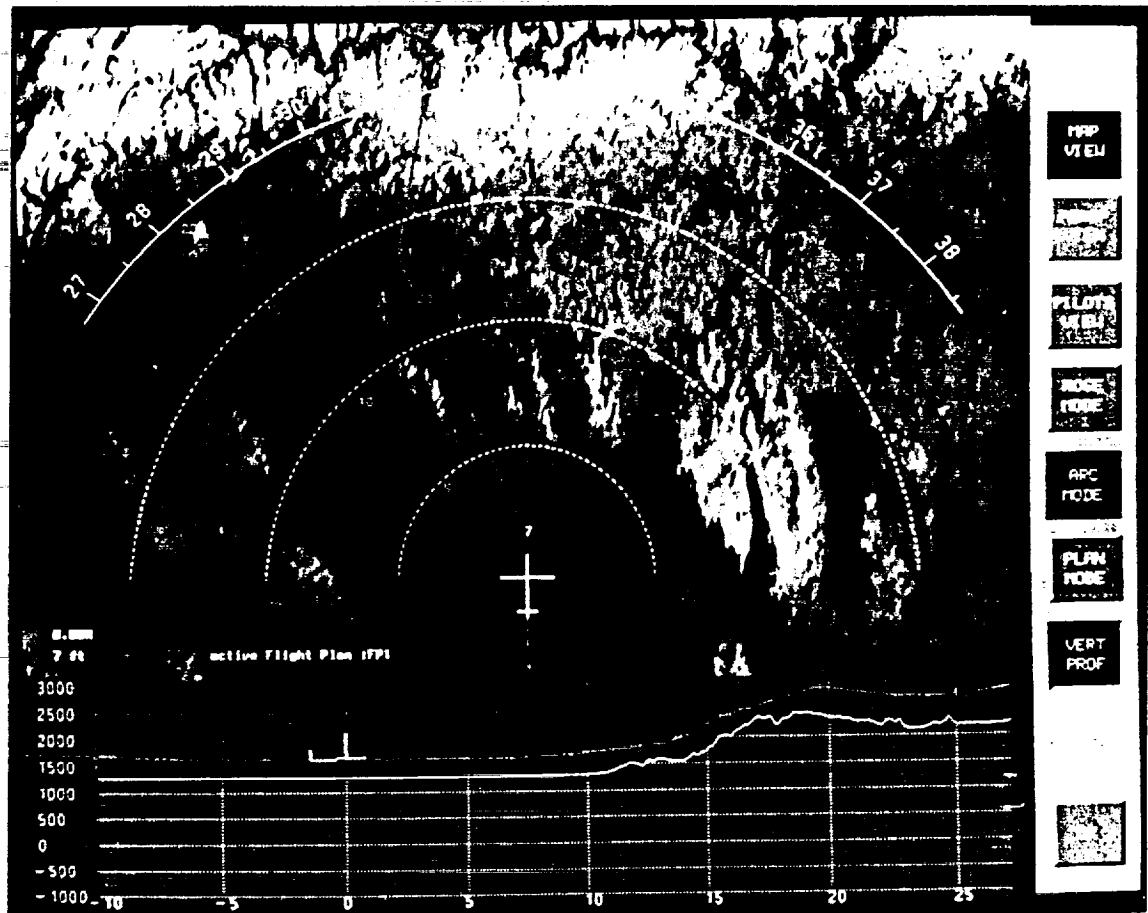

Figure 2: Navigation Display Format:
- Topography and the vertical flight profile (Figure 2)